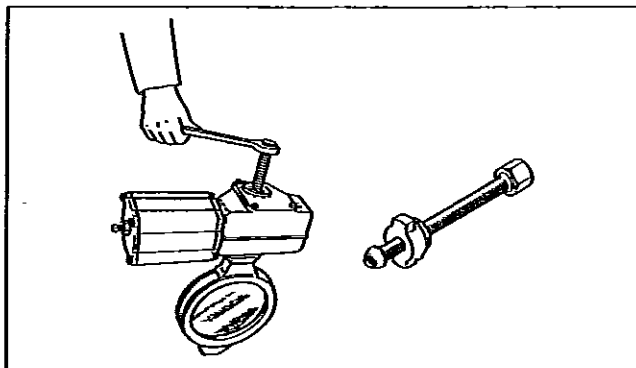

Fig. 17. Removing the B1 series actuator with an extractor
- Detach the actuator using a suitable extractor. The correct tool can be ordered from the manufacturer (see Fig. 17).